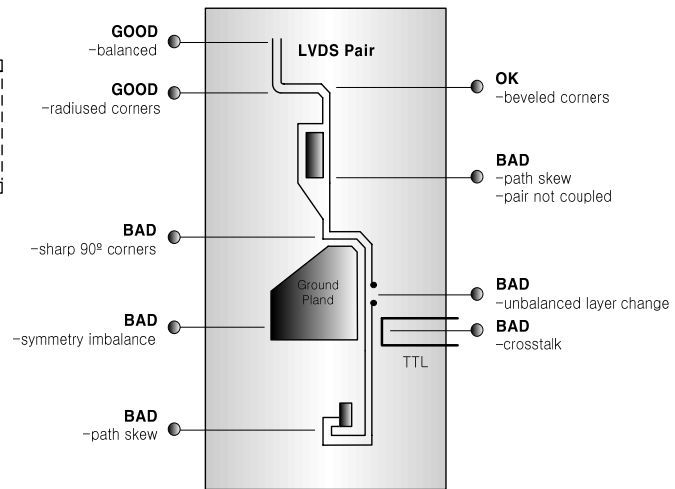

Figure 6. PCB Layout Example
- ✚ To limit the impedance discontinuities causing signal reflection and crosstalk, the 90° angle on PCB trace must be not used (see Figure 6) and the number of via should be reduced.